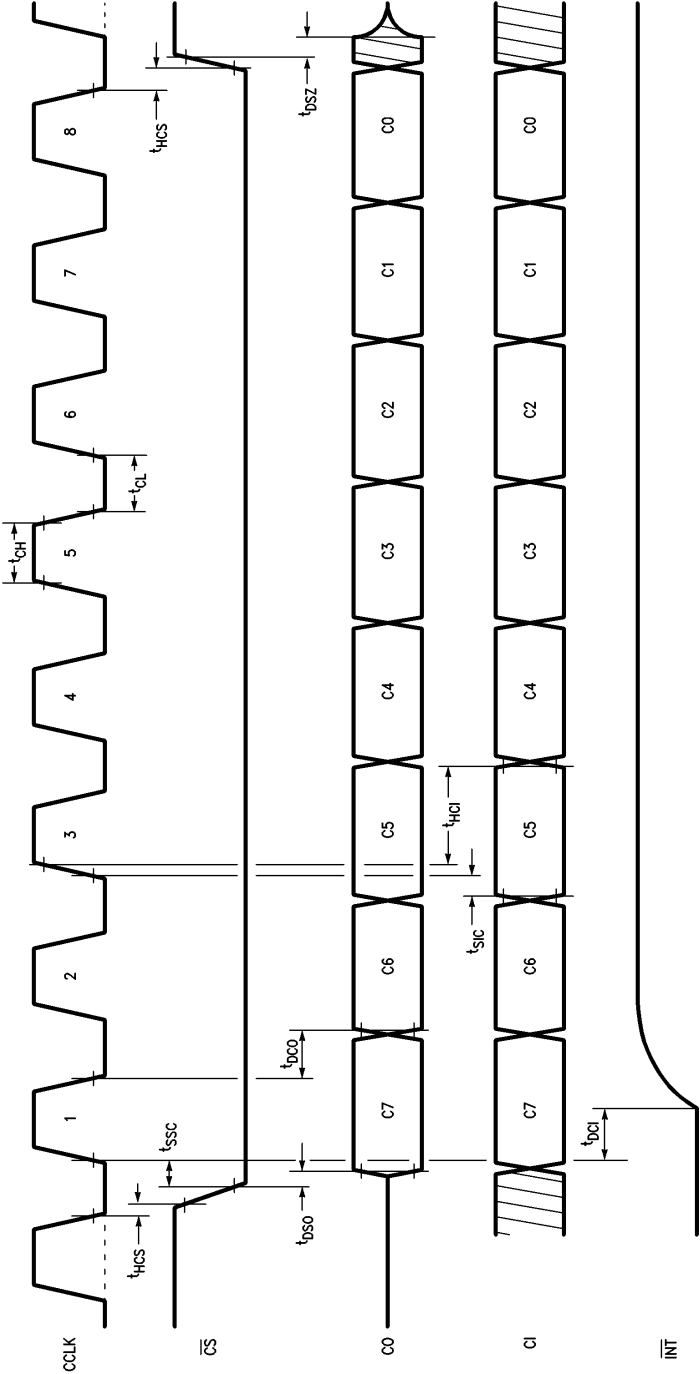

FIGURE 13. Control Interface Timing
A serial interface, which can be clocked independently from the B and D channel system interfaces, is provided for microprocessor control of various functions on the DASL device. All data transfers consist of a single byte shifted into the Control Register via CI simultaneous with a single byte shifted out from the Status Register via CO, see *Figure 13*. Data shifts in to CI on rising edges of CCLK and out from CO on falling edges when CS is pulled low for 8 cycles of CCLK. An Interrupt output, INT goes low to alert the microprocessor whenever a change in one of the status bits, C1 and/or C0 has occurred. This latched output is cleared high following the first CCLK pulse when CS is low. No interrupt is generated when status bit C2 (bipolar violation) goes high, however. This bit is set whenever 1 or more violations of the AMI coding rule is received, and cleared everytime the CS is pulsed. Statistics on the line bit error rate can be accumulated by regularly polling this bit.
*Figure 13* shows the timing for this interface, and Table II lists the control functions and status indicators.
CONTROL INTERFACE (Figure 13)